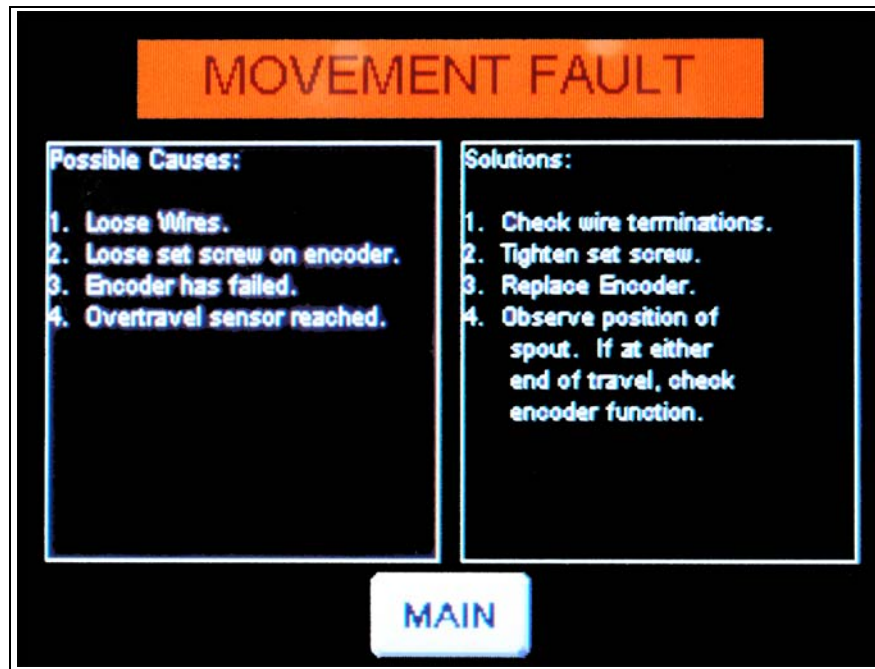

Figure 3D Movement Fault Screen
**Movement Fault:** Displays the “Movement Fault” screen which offers possible causes and solutions to faults caused by distributor movement (See Figure 3D on Page 33.)